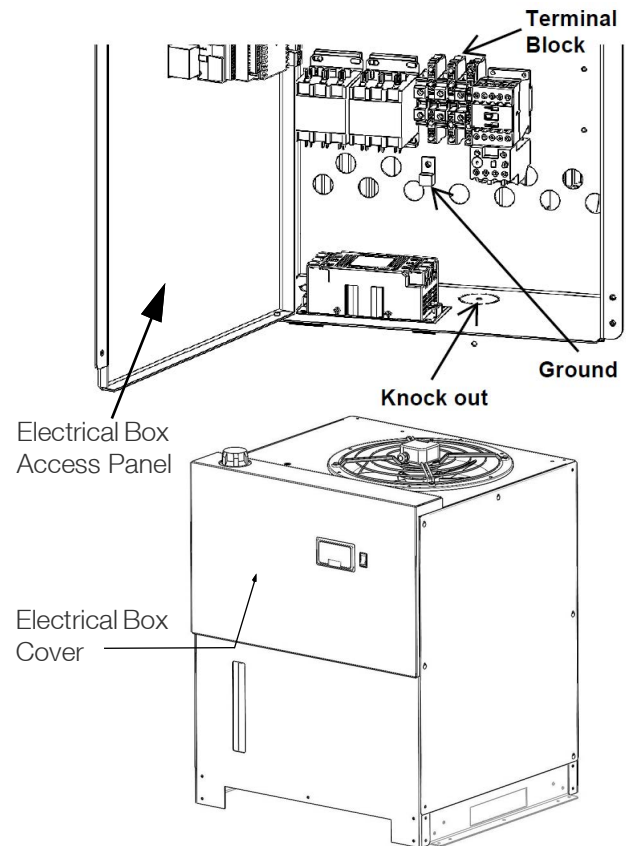

Figure 39. TSC210-260 Electrical Box
- Route power cables from the rear panel knockouts to the electrical box through the knockout provided on the electrical box. Refer to **Figure 39**.
- Refer to the label in the electrical box to configure your chiller. Refer to **Figure 39**.